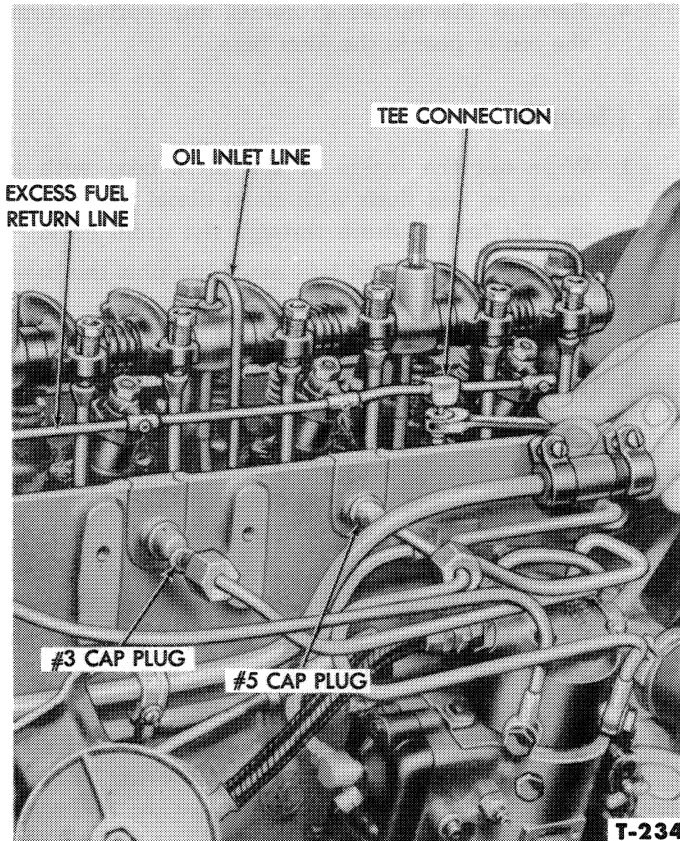

Figure 5—Removing Injector Excess Fuel Return Line
1. Remove the valve rocker cover and gasket. Disconnect the excess fuel return line at the top of each injector. Back off the hex nut fitting at the "tee" connection in the line to the cylinder head to remove the line, Figure 5.